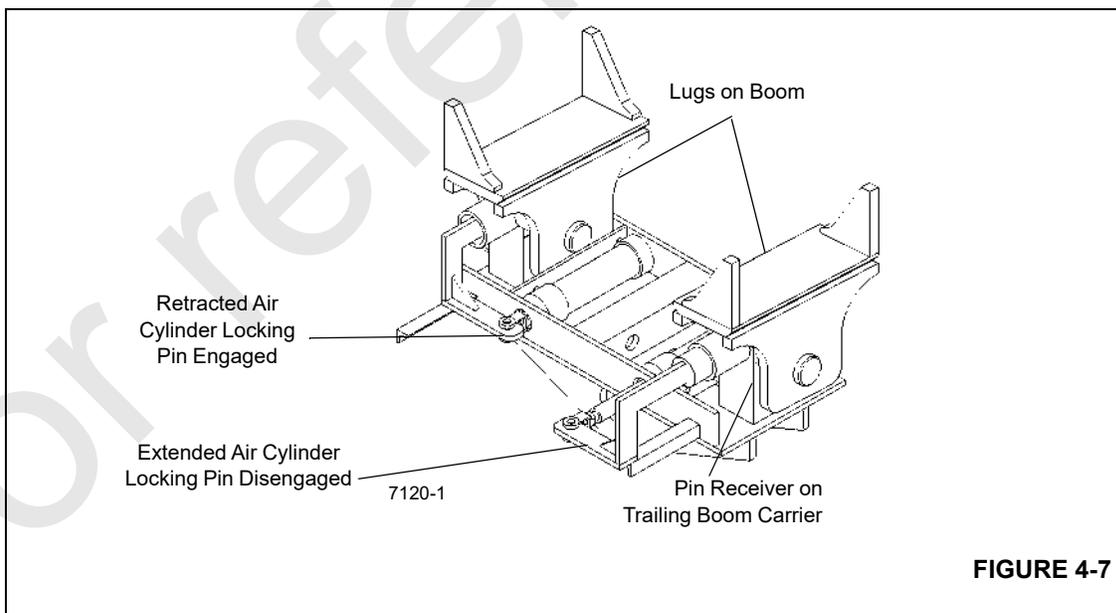

FIGURE 4-7
**NOTE:** When the air cylinders are extended, the locking pins are disengaged. When the air cylinders are retracted, the locking pins are engaged. Refer to (Figure 4-7).